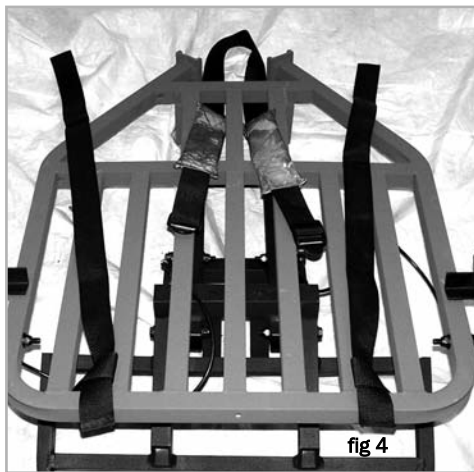

fig 4
Step 3: Take TOP SECTION of BACKPACK STRAP (section with the shoulder pads); Fold in half so STRAPS on both sides of fold are equal. Take two ends with SHOULDER PADS and pull them through so they are identical to STRAPS shown (fig 4).